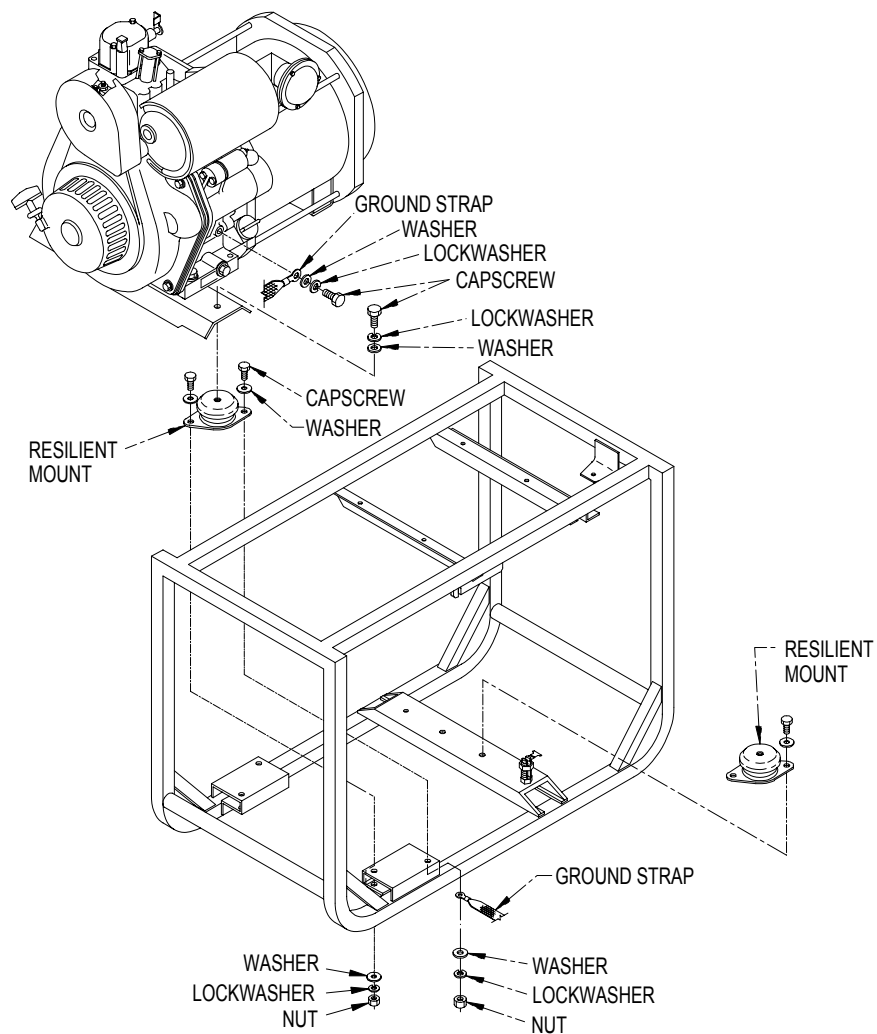

Figure 4-7. Resilient Mounts
- (1) Shut down generator set.
- (2) Remove capscrews (Figure 4-7), lockwashers, and washers securing resilient mounts to engine support bracket.
- (3) Remove capscrew, lockwasher, and washer securing ground strap to side of engine crankcase.
- (2) Remove nuts (Figure 4-7), lockwashers, capscrews with washers, and ground strap securing alternator-to-alternator bracket.